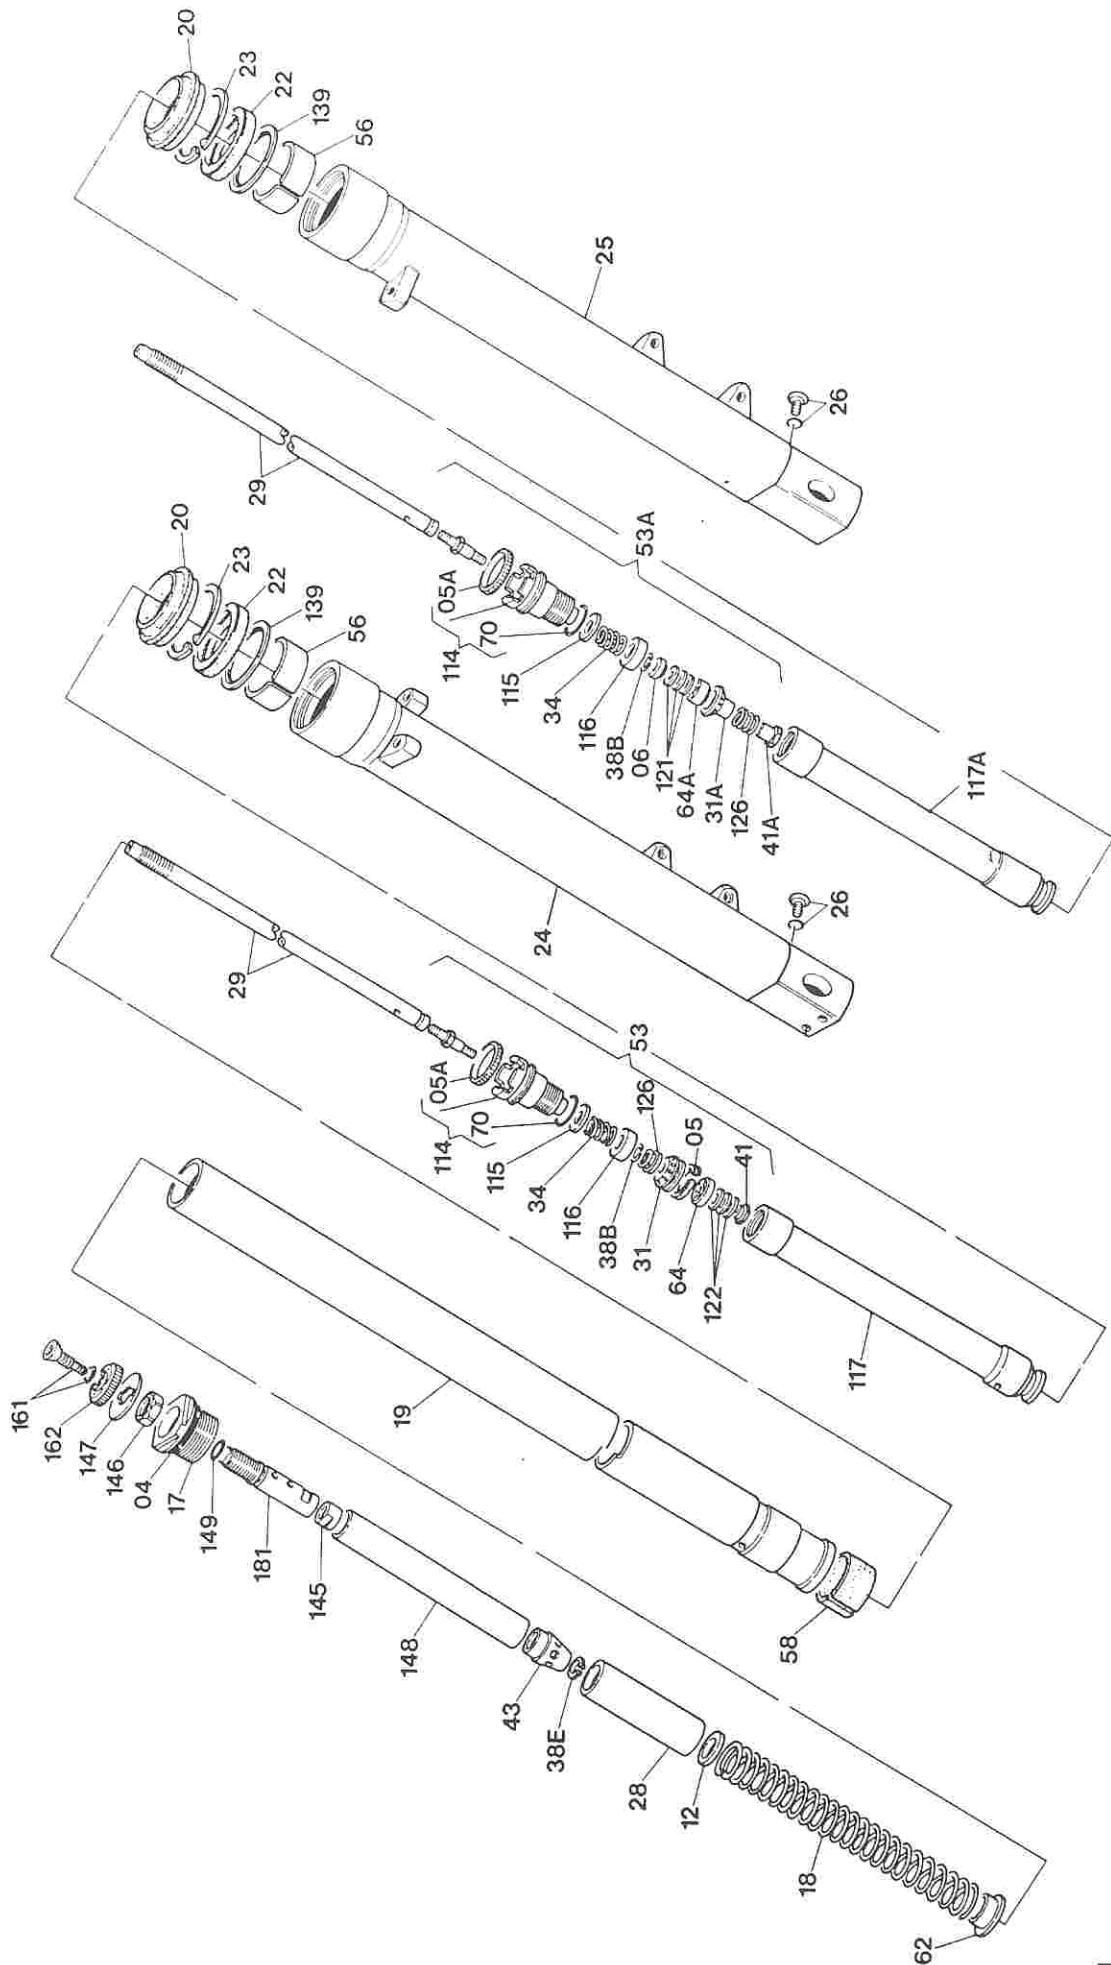

Fig.157
15.1 OIL CHANGE WITH FORK ASSEMBLED (for references not shown in the following drawings, see fig. 157)